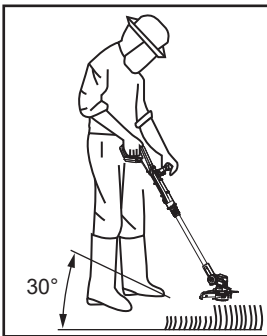

Fig. 15
1. Make sure that the knife protector (11d) is removed, the plant protector (13) is ready for use and the battery pack (16) is assembled before operation.
2. Adjust the main handle (1) angle to 0° for trimming.
5. Hold the trimmer head (12) just above the ground at an angle of approximately 30° (Fig. 15).